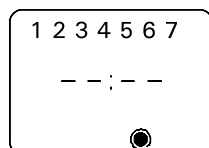

Figure 8.
- using the [manual] -button press symbol to activate programming mode in the screen as in the diagram. A dark speck in the arc indicates that the heater is programmed to come on at the desired time. (Fig. 8)